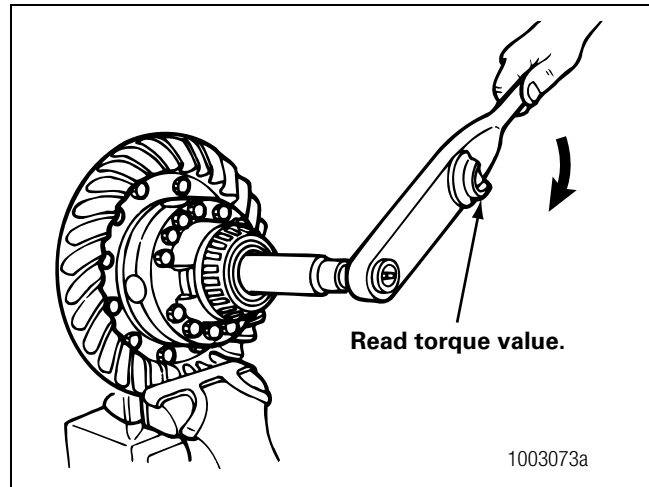

Figure 5.23
- Attach a torque wrench to the nut of the tool and rotate the differential gears. As the differential gears rotate, read the value indicated on the torque wrench. Figure 5.23.